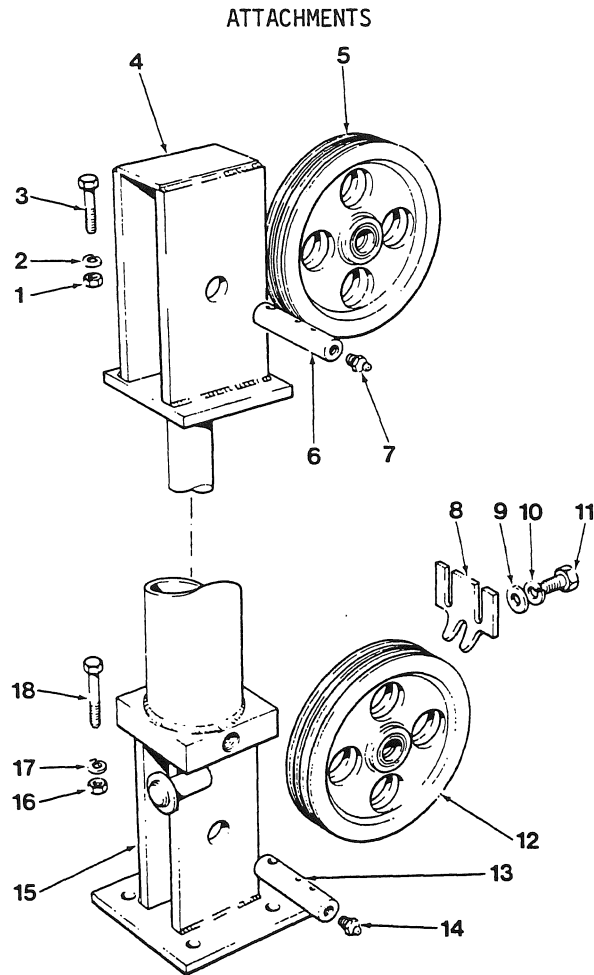

Figure 23
KEY TO FIG. 23
- e. Remove the hexagon head bolts (3 and 18, Fig. 23), nuts (1 and 16, Fig. 23) and lockwashers (2 and 17, Fig. 23) retaining the sheave pins (6 and 13, Fig. 23). Remove the sheave pins and sheaves (5 and 12, Fig. 23). Re-
- move the two hexagon head capscrews (11, Fig. 23), lockwashers (10, Fig. 23) and flatwashers (9, Fig. 23), and remove the ice scraper (8, Fig. 23).
- g. Install the sheaves (5 and 12, Fig. 23) into the sheave housings, and retain with the sheave pins (6 and 13, Fig. 23). Retain the pins with the hexagon head bolts (3 and 18, Fig. 23), nuts (1 and 16, Fig. 23) and lockwashers (2 and 17, Fig. 23). Install the ice scraper (8, Fig. 23), and retain with the two hexagon head capscrews (11, Fig. 23), lockwashers (10, Fig. 23) and flatwashers (9, Fig. 23).